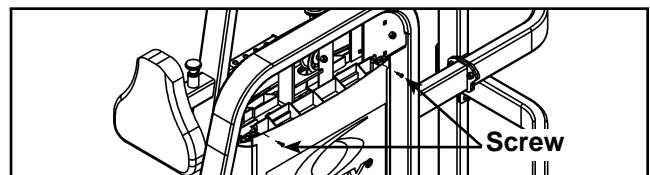

Figure 9
- G. Remove the top two screws securing the back shroud. See Figure 9.